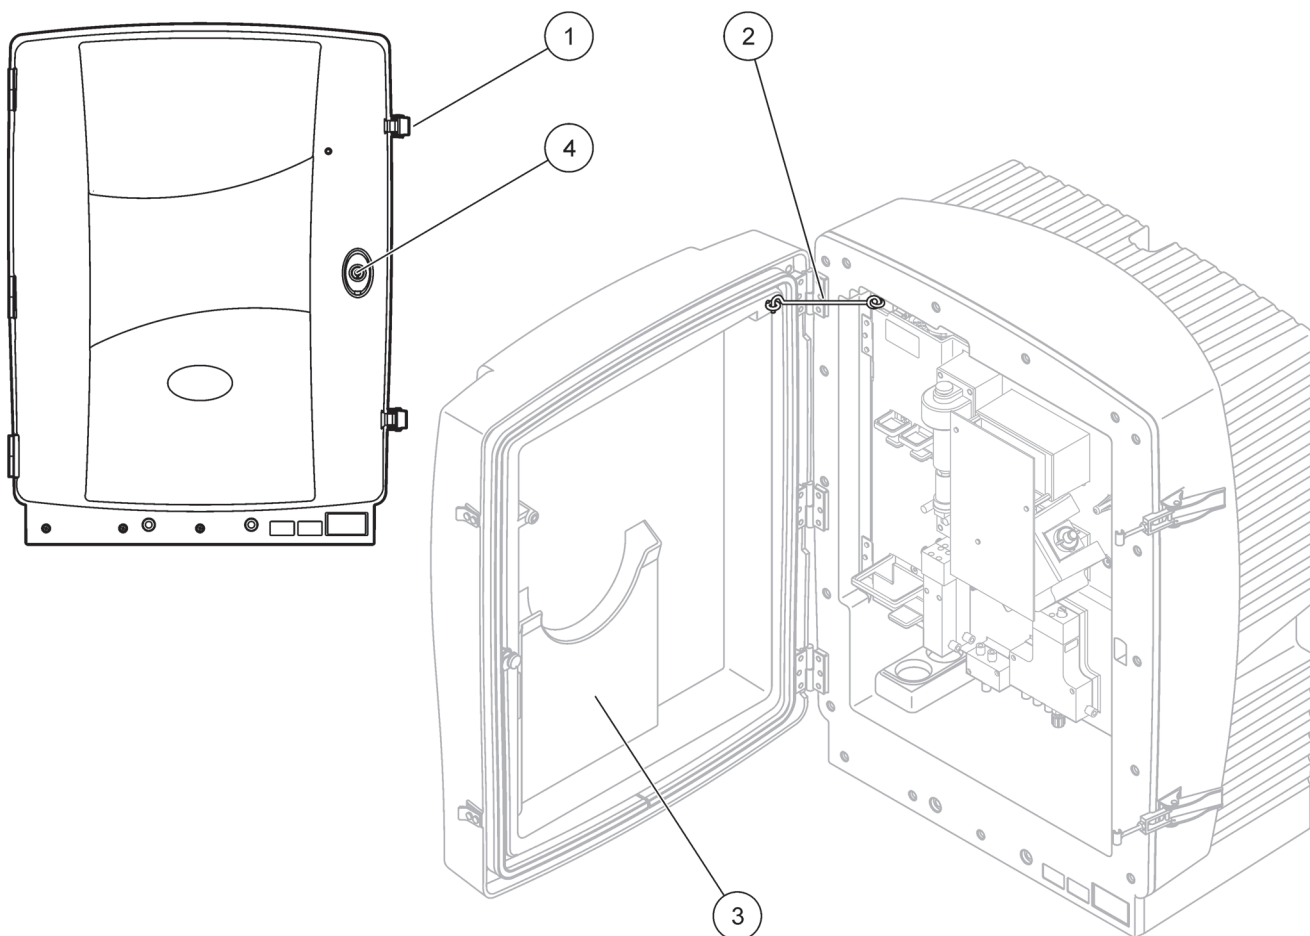
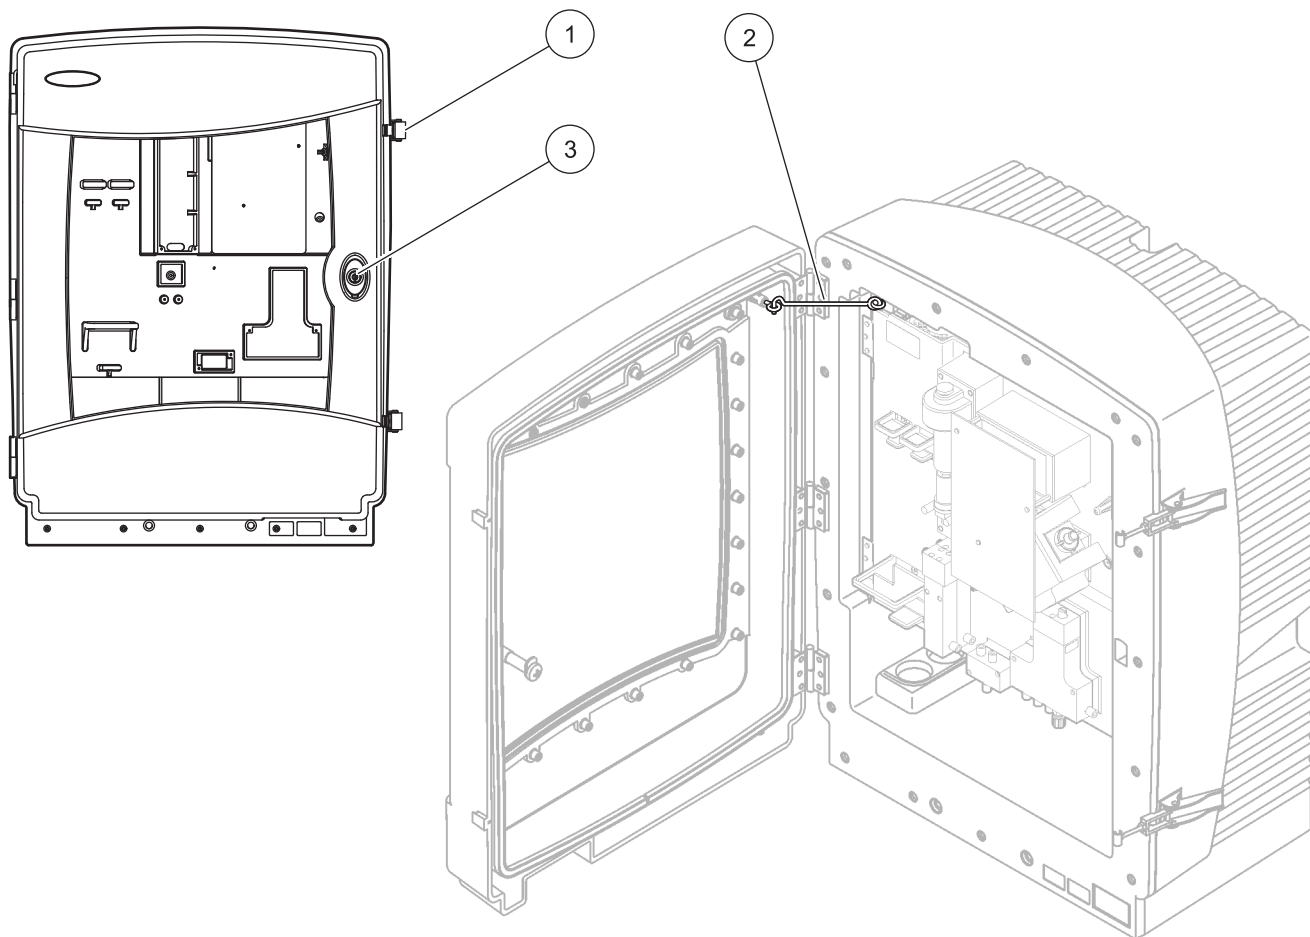

Figure 7 Open the enclosure AMTAX sc
Figure 8 Open the enclosure AMTAX indoor sc
1. Unlock the instrument (item 4, Figure 7, item 3, Figure 8).